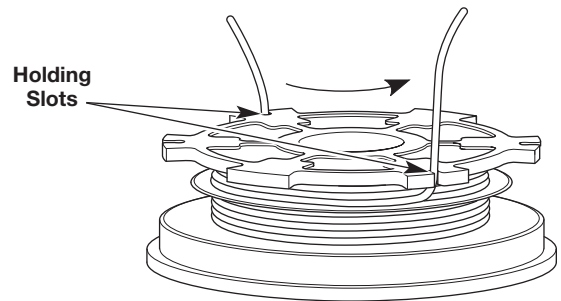

Fig. 15
3. Insert the two 6-inch sections into the two .095 holding slots (Fig. 15).
4. Insert the two 6-inch sections into the two .095 holding slots (Fig. 15).